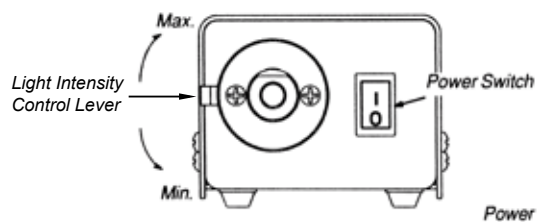

Figure 1 Front View
2. Turn the Light Intensity Control Lever to the minimum position (**Figure 1**). Plug the fiber-optic bundle into the light port and connect the opposite end to the equipment being used.
4. Set the light intensity to the desired level (**Figure 1**).